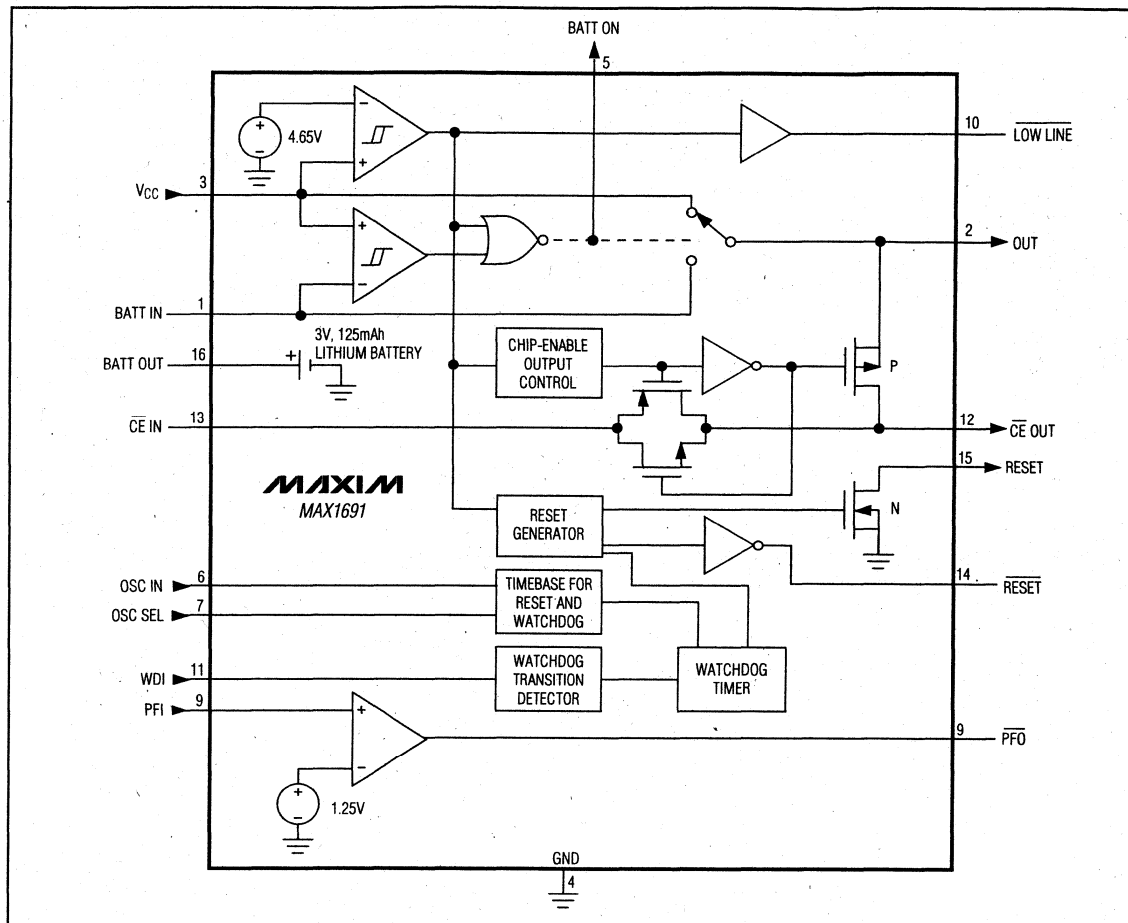

Figure 4. Block Diagram
The MAX1691 provides internal gating of chip-enable signals to prevent erroneous data from being written to CMOS RAM in case of power failure. During normal operation, the chip-enable gate is enabled and passes all chip-enable (CE) transitions. When reset is asserted, this path becomes disabled, preventing erroneous data from corrupting the CMOS RAM. The MAX1691 uses a series transmission gate from $\overline{\text{CE}}$ IN to $\overline{\text{CE}}$ OUT (Figure 4).